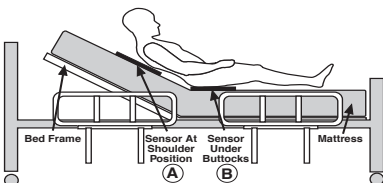

Fig. 18
3. Position the sensor on top of mattress, across width of the bed in one of two positions (see Fig. 18).